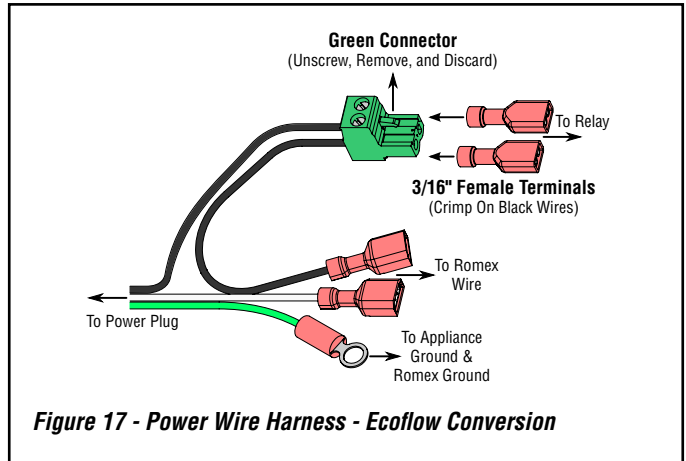

Figure 17 - Power Wire Harness - Ecoflow Conversion
- 9.3 From the **Power Wire Harness** [#3], unscrew the green two pin connector from the wire using a small flat head screwdriver. Remove the green connector from the wires and discard. Affix and crimp the two **Insulated 3/16" Female Terminals** [#18] to the bare ends of the black wires (**Figure 17**).
- 9.5 Connect the black wire from the **Power Wire Harness** [#3] to the black wire on the Romex cable coming from the **Power Vent Termination** [#1] (**Figure 17**).
- 9.6 Connect the white wire from the **Power Wire Harness** [#3] to the white wire on the Romex cable coming from the **Power Vent Termination** [#1] (**Figure 17**).